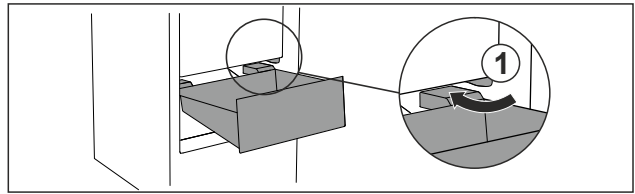

Fig. 70
- ▶ Guide drawer in at an angle around the stoppers Fig. 70 (1).